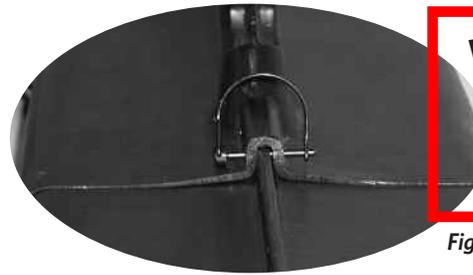

Fig. 1
5. Lock through one of the two holes in the outer sleeve and the corresponding hole in the inner sleeve. (Fig. 1)
6. Push ends firmly together and lock through either of the two holes in the outer sleeve and the corresponding hole in the inner sleeve. (Fig. 1)
4. Slide external section over all skis and close case tightly. Place padlock/wire case pin through holes in both sections and lock. (Fig. 1 & 4)